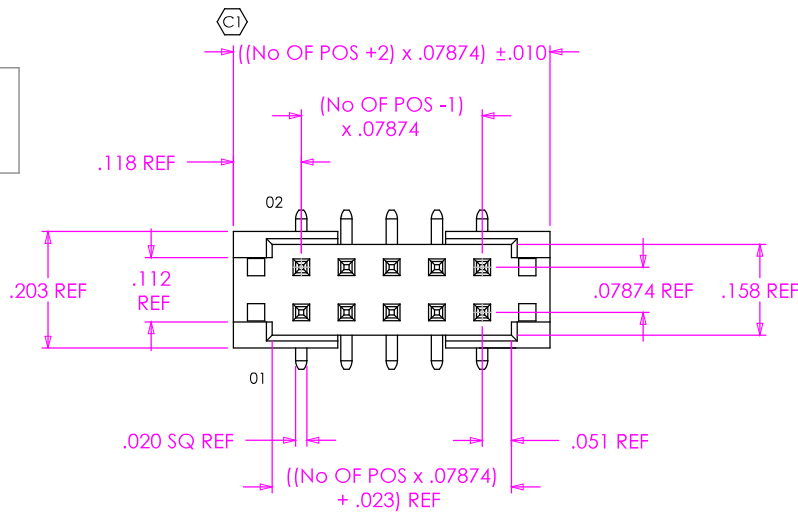

FIG. 1
-DV: DOUBLE VERTICAL (SEE FIG. 1) (USE TMSH-XX-D-ES)